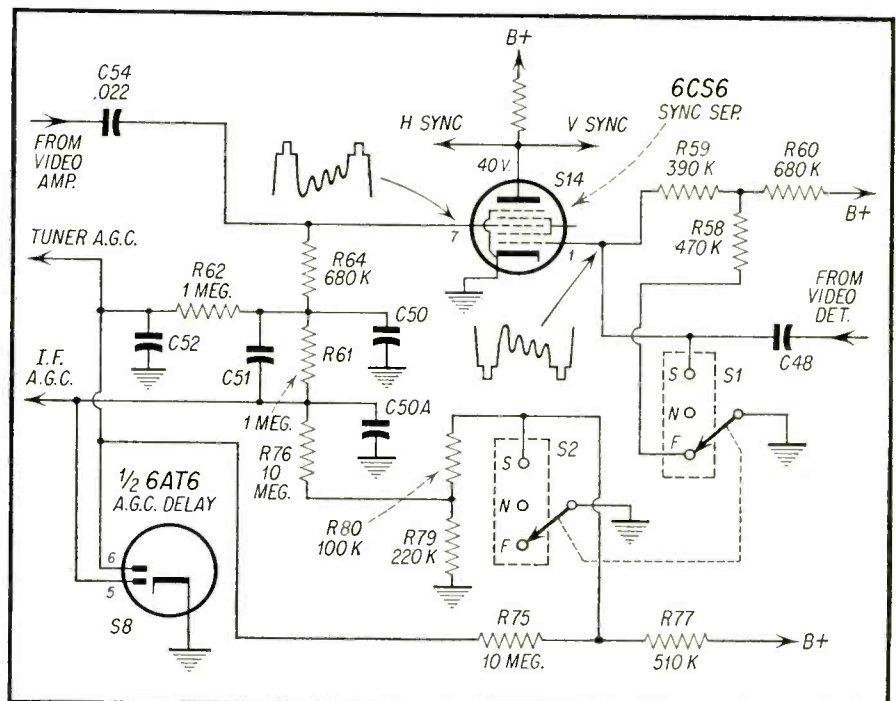
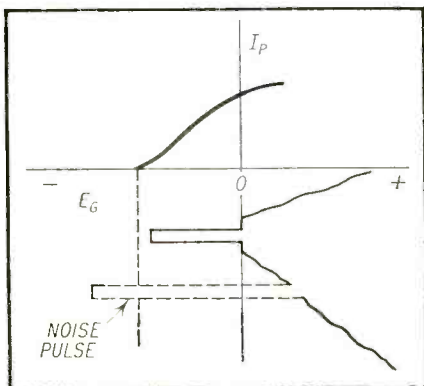

Fig. 1—Partial schematic of Philco chassis 350 and 354 showing sync separation, delayed AGC, noise suppression, et al circuits.
Fig. 3—How noise pulse cuts tube conduction off, thereby preventing disturbance of horizontal and vertical oscillators.
Reference to Fig. 1 for the sync separation action of S14 will reveal that the video signal is injected into G3 (pin 7) of the 6CS6 tube as a positive sync signal. The plate voltage on this tube is low and the following action results.
1. A signal is taken off the video detector and applied to G1 (pin 1). See Fig. 1. The grid leak of G1 being returned to B plus, the bias on G1 is maintained close to zero because of the combined action of the small B plus voltage cancelling the small negative voltage developed as a result of grid biasing. See Fig. 3.